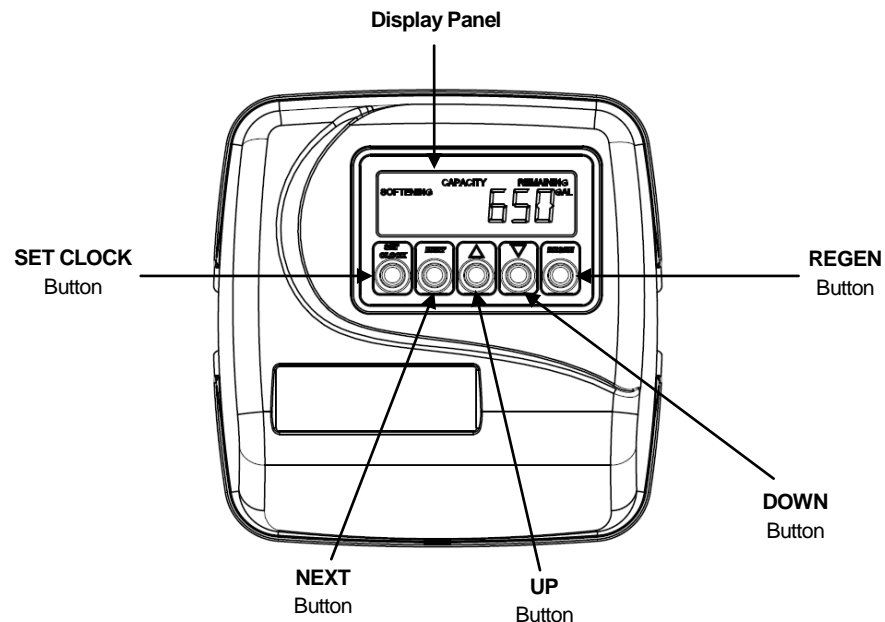

**FIGURE 7: Brine Tank**
- STEP 9: Connect brine line between the softener and safety brine valve.** Install the 3/8" O.D. polyethylene tube from the brine refill elbow (Figure 6, Page 5) to the safety brine valve (Figure 7) inside the brine tank. **DO NOT INSERT THE BRINE REFILL LINE INTO THE BRINE TANK OVERFLOW ELBOW FITTING. Do not put salt in the tank until STEP 25.**
- STEP 10: Install brine tank overflow drain line (not included).** An overflow drain line is recommended. The softener includes a safety brine valve (Figure 7) which reduces the chance of a brine overflow. In the event of a malfunction, an overflow drain line will direct the "overflow" to the drain instead of onto the floor where it could cause considerable damage. This fitting is an elbow on the side of the brine tank (Figure 7). Attach a length of 1/2" I.D. tubing to fitting and run to a drain. Do not elevate overflow line higher than 3" below bottom of overflow fitting. **DO NOT "TIE" THIS TUBE INTO THE DRAIN LINE OF THE CONTROL VALVE AS IT WILL RESULT IN OVERFILLING THE BRINE TANK AND FLOODING.** The overflow line must be a direct, separate line from the brine tank overflow elbow to a floor drain or sump pit.